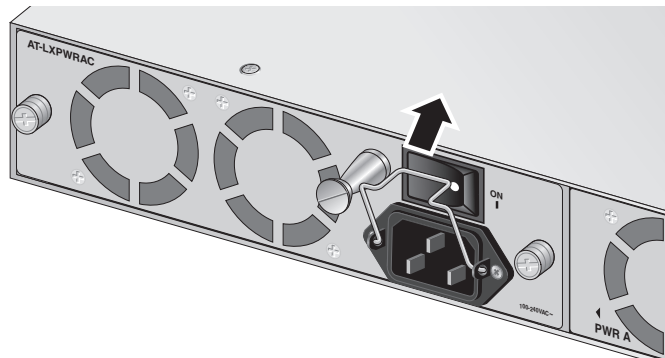

Figure 36. Power Cord Retaining Clip in the Up Position
2. Position the power cord retaining clip in the up position, as shown in Figure 36.